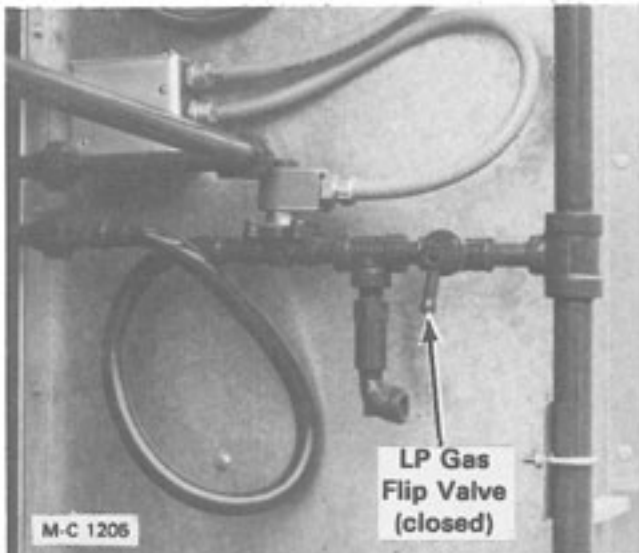

Figure 2 - LP Gas
2. **LP Gas** - Close the liquid line flip valve for each burner (handle down), see Figure 2.